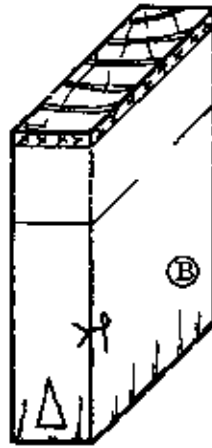

Fig. 2
- Mark out the length of the tenon on piece B. Allow 3 mm waste in the length and make square lines all around with a try square and pencil (Fig. 2).